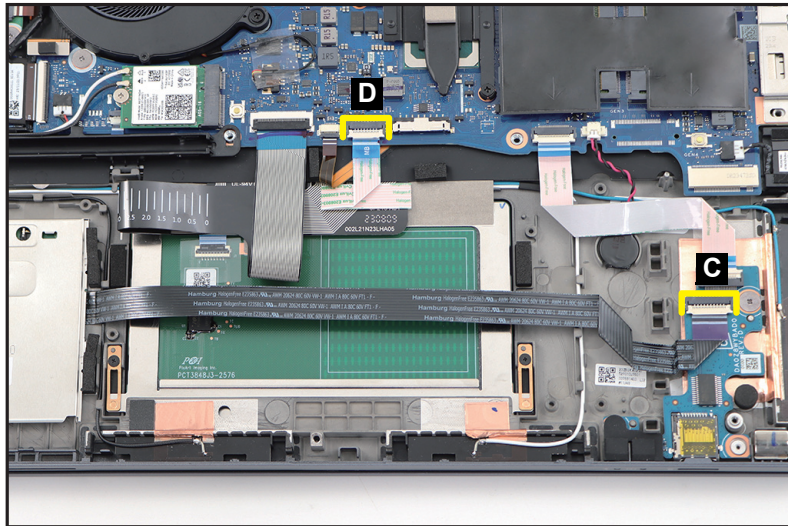

Figure 1-57. Touchpad Module Removal
2. Disconnect the smart card reader FFC from the card reader board connector (C) (Figure 1-57).
3. Disconnect the touchpad FFC from the mainboard connector (D) (Figure 1-57).